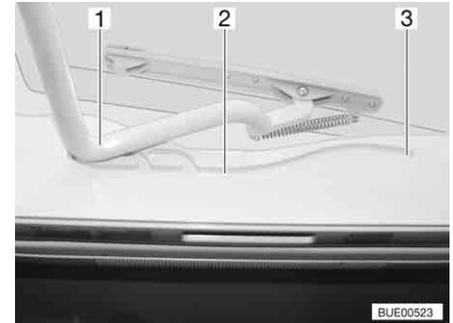

Fig. 19 Hinged skylight, guide
- Pull the bar (Fig. 19,1) in the guides (Fig. 19,2) to the rearmost position (Fig. 19,3).
- Use both hands to push the bar (Fig. 19,1) slightly upwards.
- Pull the bar in the guides (Fig. 19,2) to the desired position.